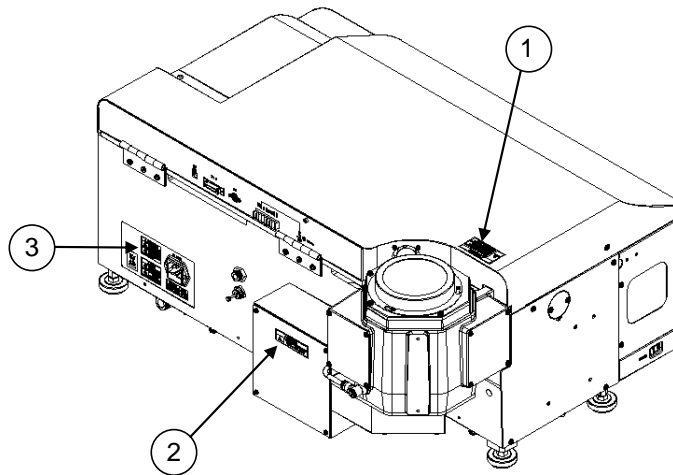
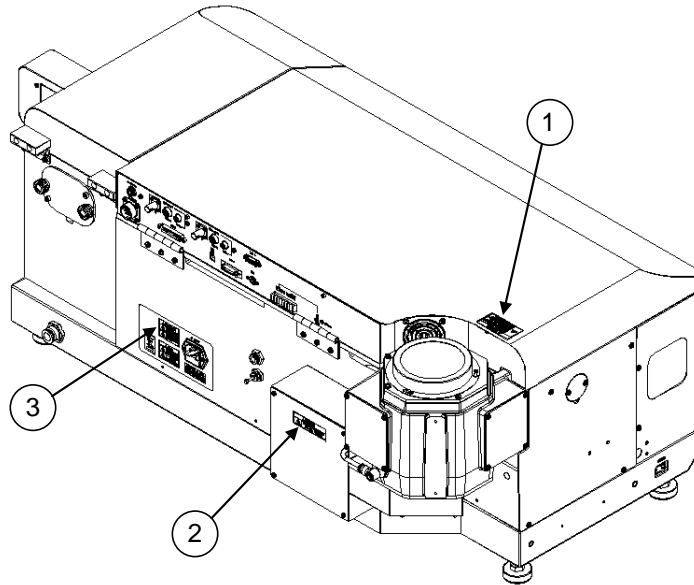
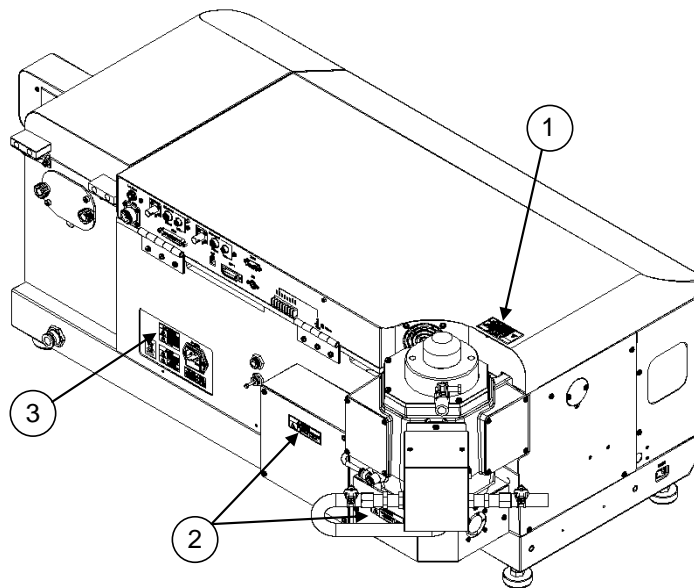

Figure 2 Warning indications of Model J-1100 CD spectrometer
Figure 3 Warning indications of Model J-1500 CD spectrometer (150 W light source)
Figure 4 Warning indications of Model J-1500 CD spectrometer (450 W light source)
### 1) Warning for Xenon Lamp (No.1 of Figure 2, Figure 3 and Figure4)
### 2) Warning for Dangerous voltage (No.2 of Figure 2, Figure 3 and Figure4)
**3) Warning for FUSE and GROUND (No.3 of Figure 2, Figure 3 and Figure4)**
**4) The crossed-out wheeled trash bin WEEE Label (No.3 of Figure 2, Figure 3 and Figure4)**